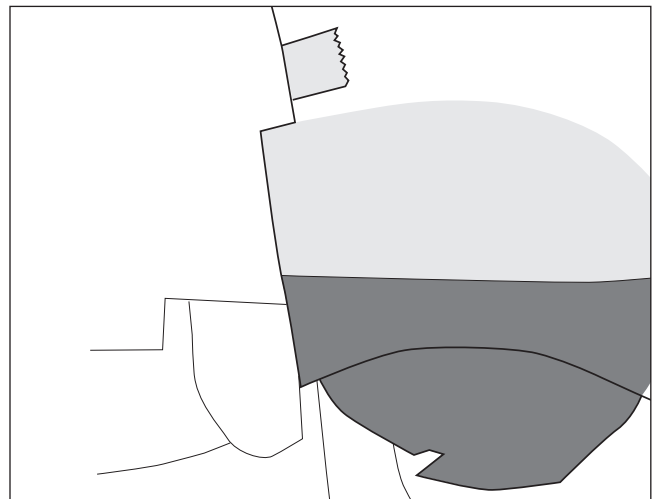

Figure 7
- B. Make sure that the lower vinyl is positioned high enough to fill the radius shown below (fig. 7).